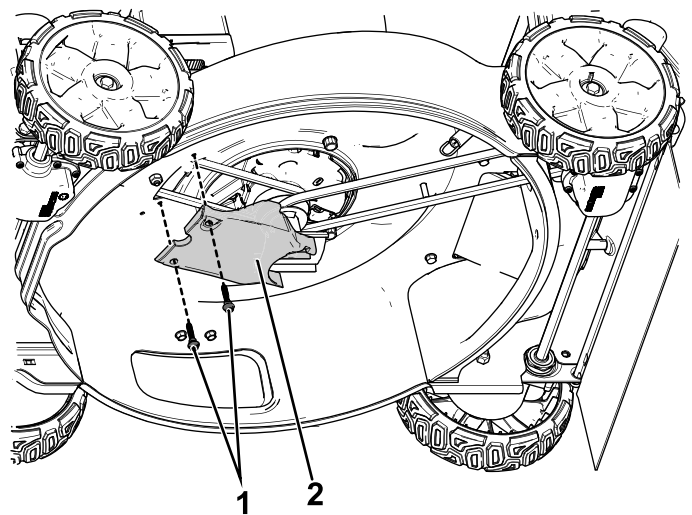

Figure 10
5. Tighten the 5 bolts that hold the rear baffle in place (Figure 10).